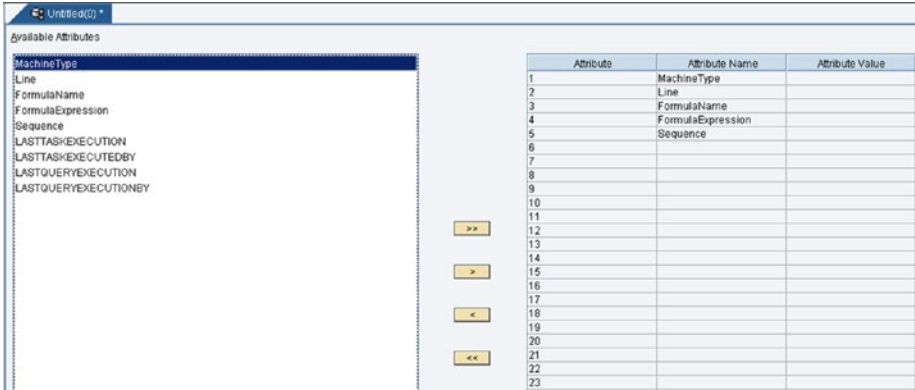

Figure 6-21. The Insert Query Mode screen
- **Insert Query:** If the mode selected is an INSERT type, the MDO will be configured in an INSERT query. This is used to insert the data in MDO without a data provider, as shown in Figure 6-21.